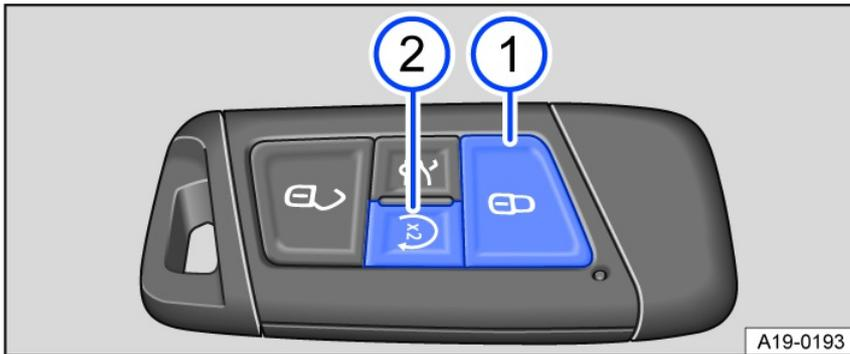

Fig. 114 Vehicle key with remote start relay function.
1. Press the button  *fig. 114* ① once. All turn signals will flash.
2. Press the button  *fig. 114* ② twice in a row. All turn signals will flash. During remote start, the parking light turns on.
1. Press the  button *fig. 114* ② in the vehicle key to switch off the engine.